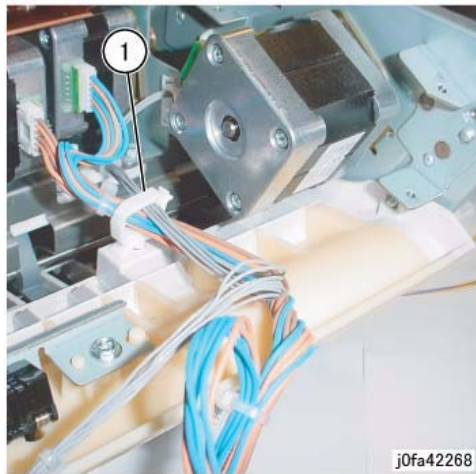

Figure 3 Releasing the Clamp
11. Release the Clamp from the wire (Figure 3):